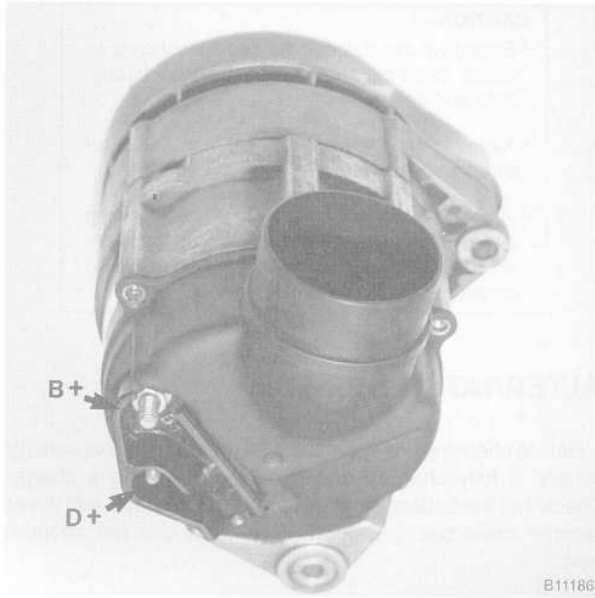

Fig. 3. Alternator terminal designation.
3. Check for battery voltage between ground and terminal **B+** at back of alternator. Then turn ignition on and check for battery voltage between terminal **D+** and ground. If voltage is not present at either point, check for wiring for faults. See Fig. 3.